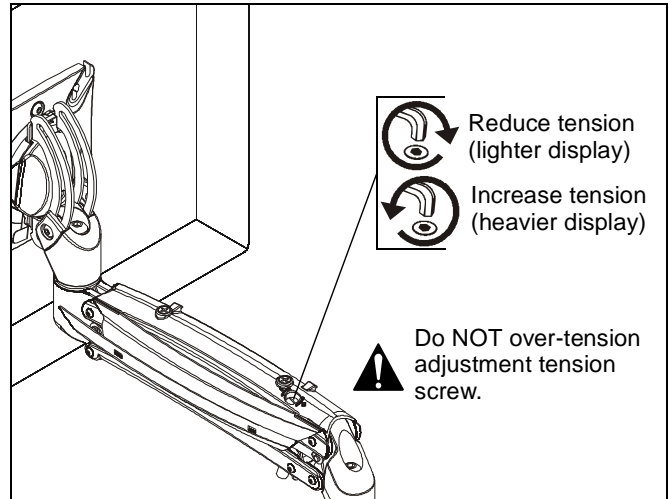

Figure 17
NOTE: Tension may also be adjusted with upper tension adjustment screw inside cable management cover and 1/8" hex key (L). (See Figure 17)